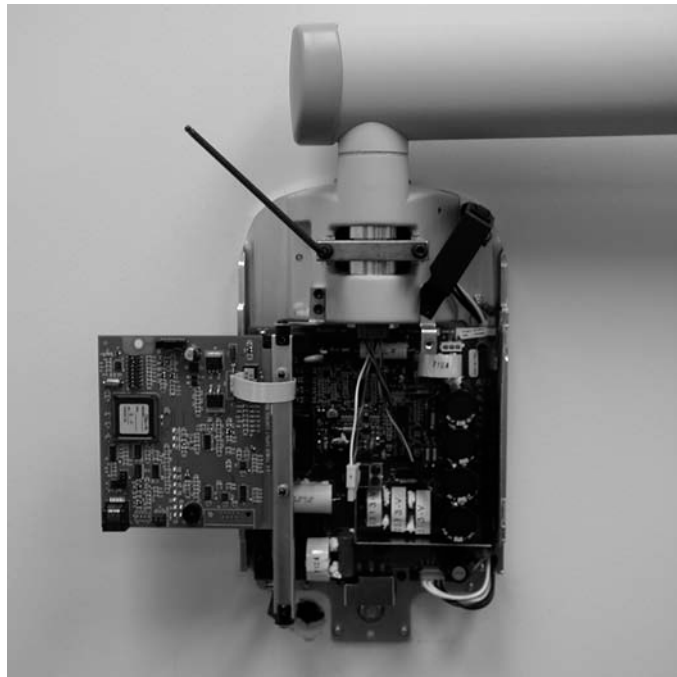

Figure 28
2. Using a 4 mm Allen wrench, as shown in Figure 28, tighten the screws equally to apply adequate braking to the pivot post so that Horizontal Arm begins to move after the Articulating Arm.